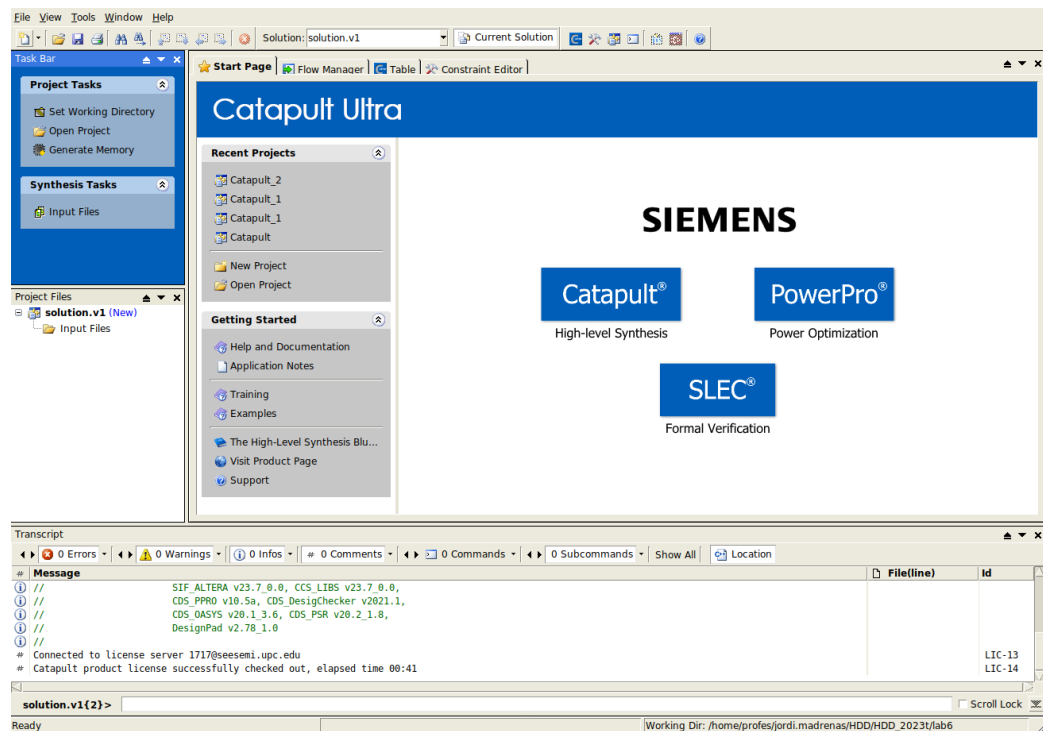

Figure 1. Catapult GUI.
8. *File* → *New* → *Project...* Leave *Catapult* as project name, OK. If asked *Save current project first?* click *No*. The Catapult GUI at this stage is shown in Fig. 1. At the left, the Task Bar indicates the operations than can be selected. The